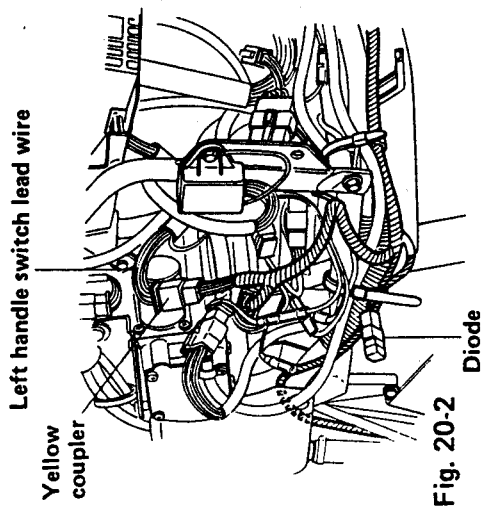

Fig. 20-2
- 2) On the right side of the headlight brace, connect the yellow coupler to the coupler of the left handle switch lead wire as shown in Fig. 20-2. Connect the two remaining couplers to each other.